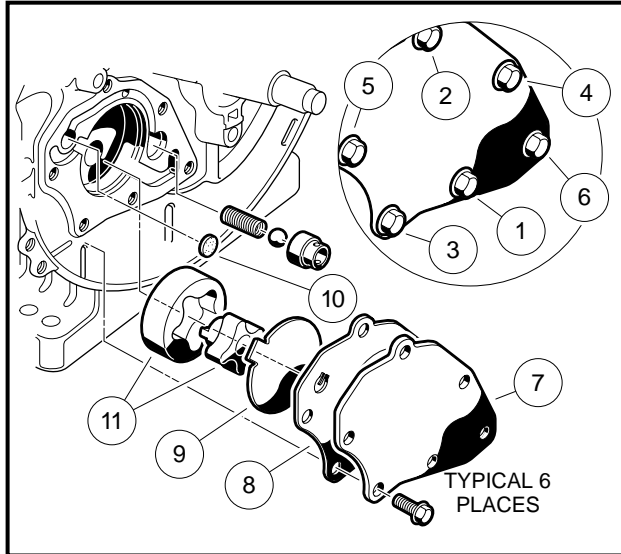

Figure 13-65 Oil Pump Removal
1. Remove the six screws (1 - 6) and remove the oil pump cover (7) (Figure 13-65, Page 13-33).
2. Peel off the oil pump cover gasket (8).
3. Remove the pump gear cover plate (9) and filter screen (10).
3. Remove inner and outer rotors (11) (**Figure 13-65, Page 13-33**).
3. Install six bolts (1 - 6) and finger tighten. Then tighten to 7 ft-lb (9.5 N·m) in the sequence shown (**Figure 13-65, Page 13-33**). After tightening bolts, check the torque of the first bolt.